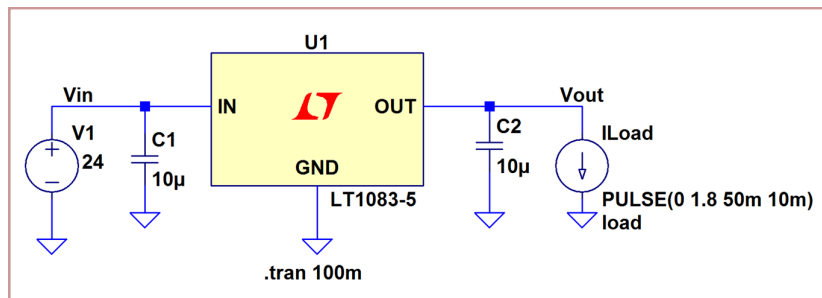
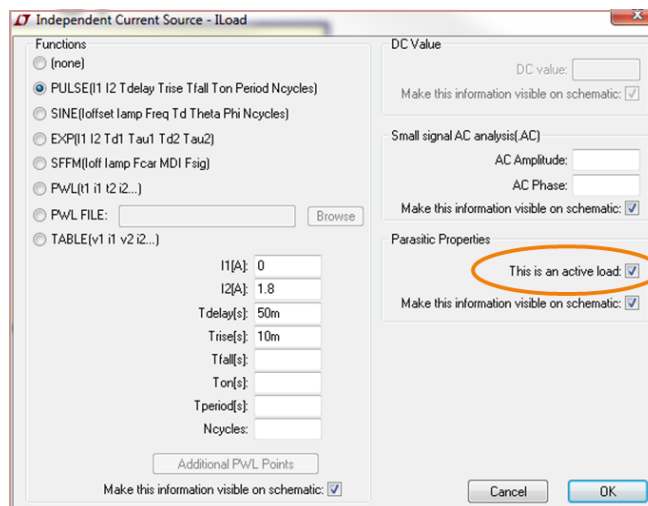

Figure 11. Load regulation simulation.
Figure 12. Setting current source to be an active load.
1. Simulate the schematic shown in Fig. 11. Be sure to set the current source to be an active load as shown in Fig. 12. The current source represents a load that suddenly increases. This is how load regulation is tested. Compare the output voltage before and after the current step. The difference is the load regulation. What is the load regulation? **(Schematic, Plot, Answers)**